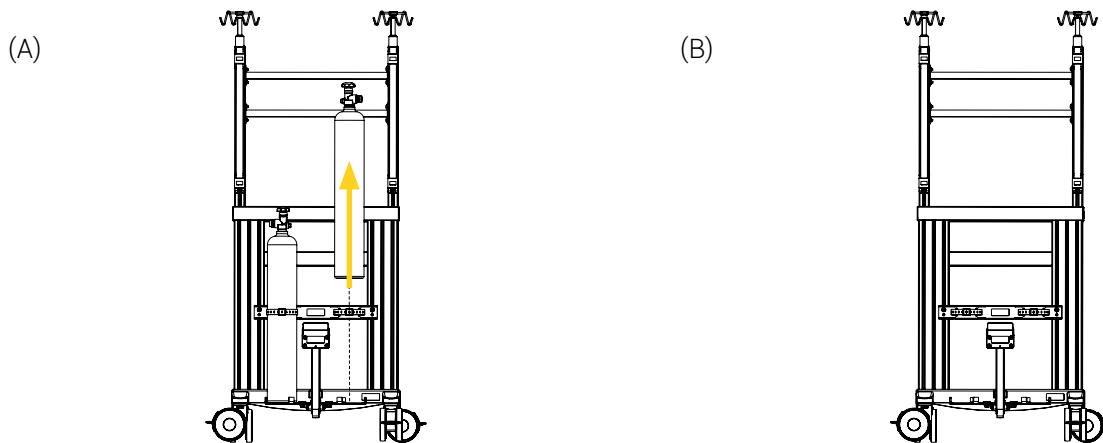

Figure 20 : Removal of the gas cylinder from the mounting bracket
1. Apply the brakes on all four (4) dual wheel swivel casters of the transport cart.
3. Lift and remove the gas cylinder from the mounting bracket (Figure 20 A), then set it aside.
4. If required, repeat steps 1 to 3 to remove a second gas cylinder from the mounting bracket (Figure 20 B).